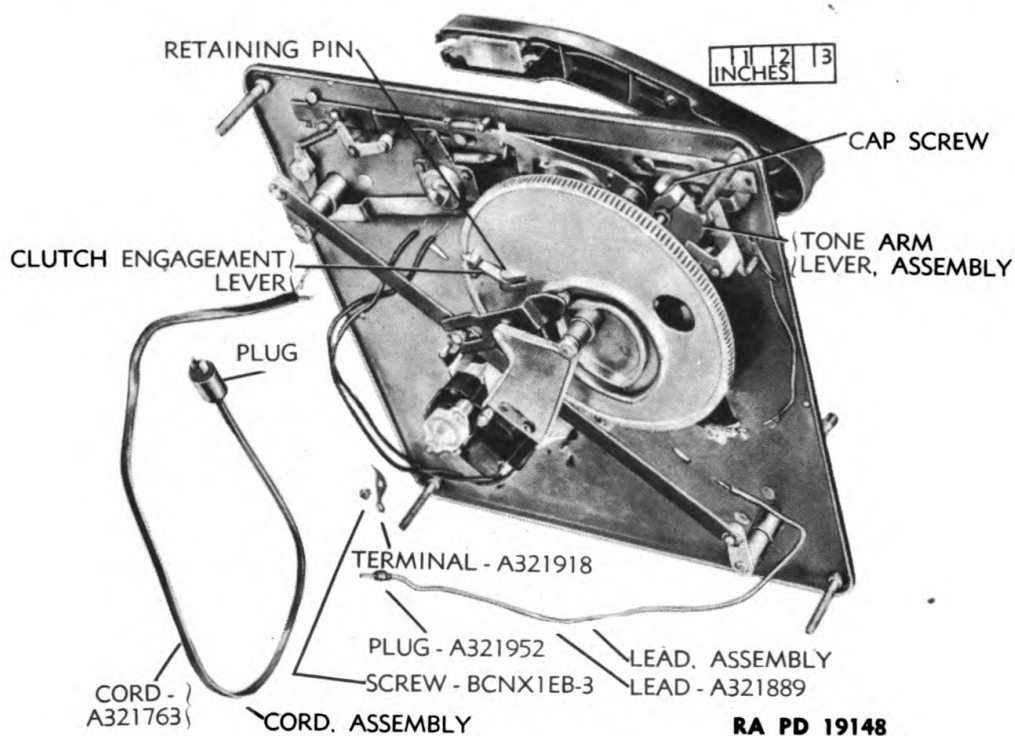

Figure 59 — Record Changer — Power Cord and Related Parts Removed
(6) Unsolder the power cord leads, the motor leads, and the tone arm leads as shown in figure 59.